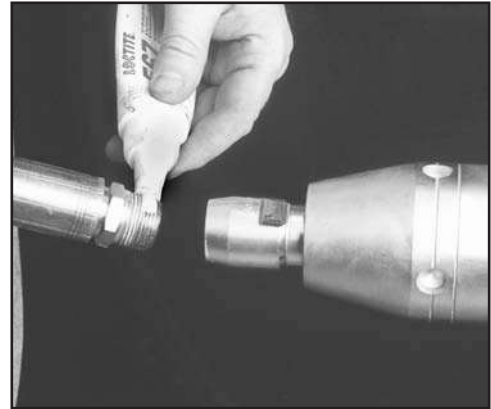

FIG. 38: APPLY LOCTITE 567 TO THREADS ON WHIP HOSE
3. Apply loctite 567 to the threads on the new whip hose and assemble (see Fig. 38).